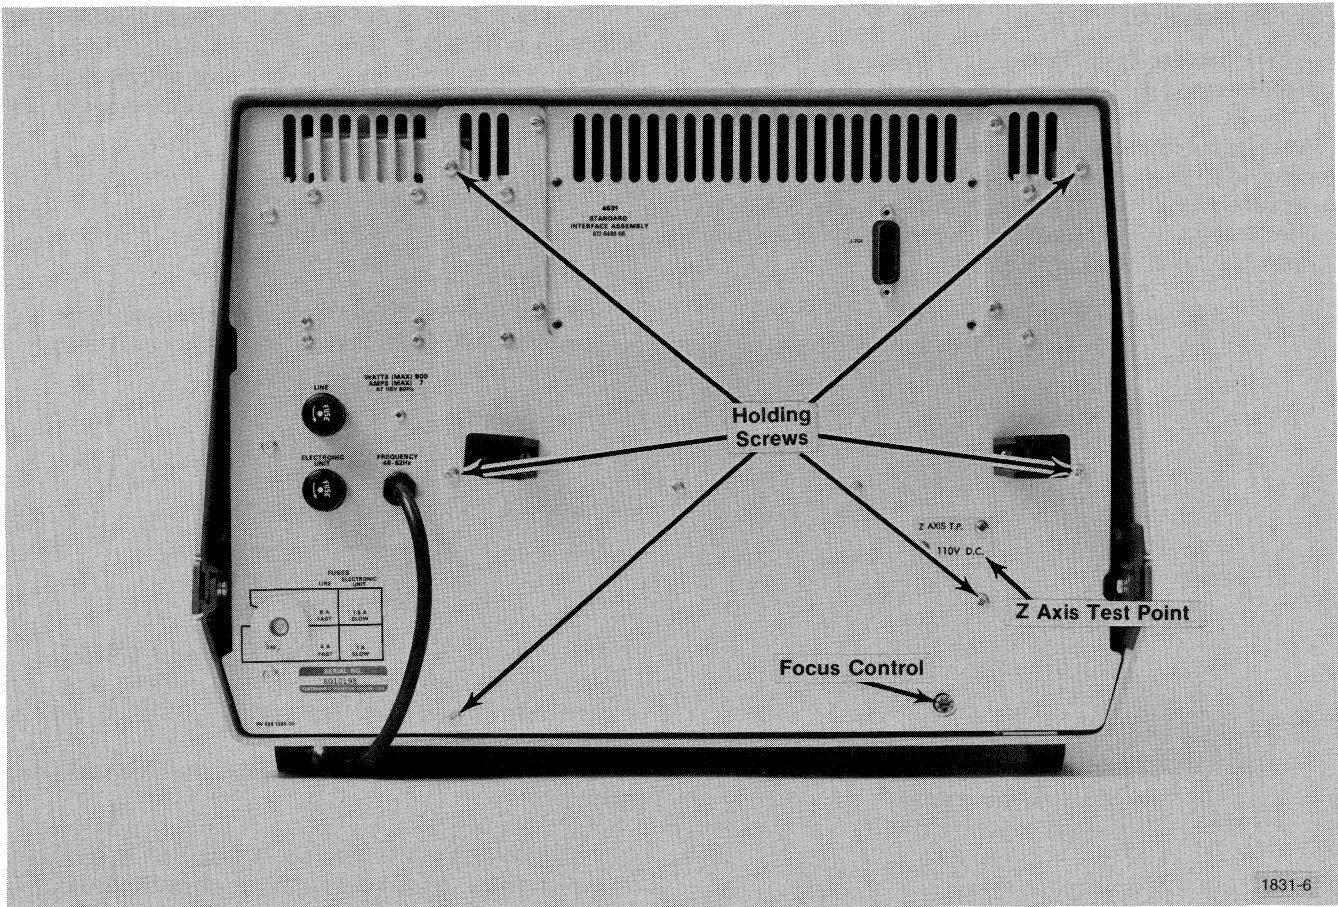

Fig. 3-10. Location of mainframe holding screws and Z axis test point.
2. Remove the six mainframe holding screws from the back panel (Fig. 3-10).
To gain access to the conductor on which the yoke leads are soldered, it is necessary to remove the processor, following the procedure given under Processor Removal. Unsolder the yoke's four leads from the connector. (The four leads are contained in a black insulating sleeve.) Note the wire color codes to facilitate replacement. Remove the back panel and Main board after removing the six screws shown in Fig. 3-10.